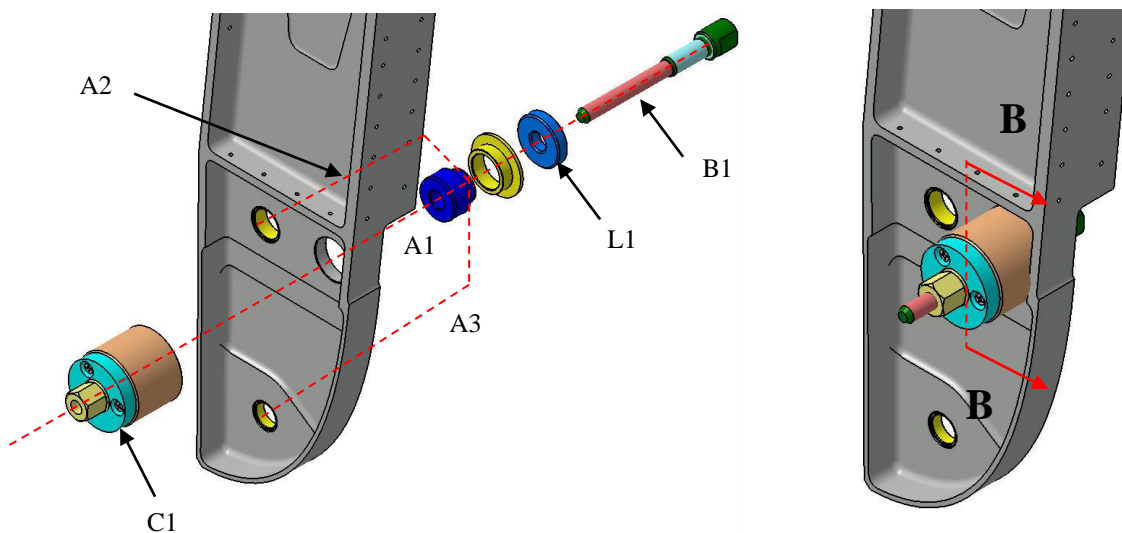

Figure 8: BUSHING INSTALLATION
- For hole H1 take PEC-139-019-02-33 (A1) PULLER, for hole H2 take PEC-139-019-02-34 (A2) and for hole H3 take PEC-139-019-02-35 (A3) (Fig. 8)
- Insert the PULLER inside the bush to be removed and insert the GUIDE inside the PULLER (Fig. 8 and 9).
- Align and screw the REACTION ASSY PEC-139-019-01-06 (C1) with the guide and remove the bush (Fig.8 and 9).